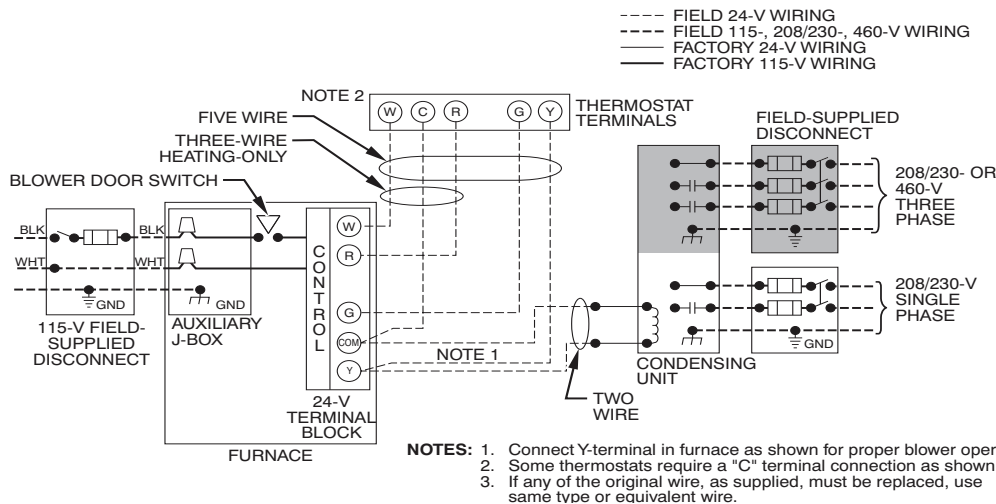

Fig. 25 – Field Wiring Diagram
See Fig. 25 for field wiring diagram showing typical field 115-v wiring. Check all factory and field electrical connections for tightness.
5. Connect line voltage leads, see Fig. 25.
Make field 24-v connections at the 24-v terminal strip, see Fig. 25 - Fig. 27. Connect terminal Y/Y2 as shown in Fig. 28 for proper cooling operation. Use only AWG No. 18, color-coded, copper thermostat wire.